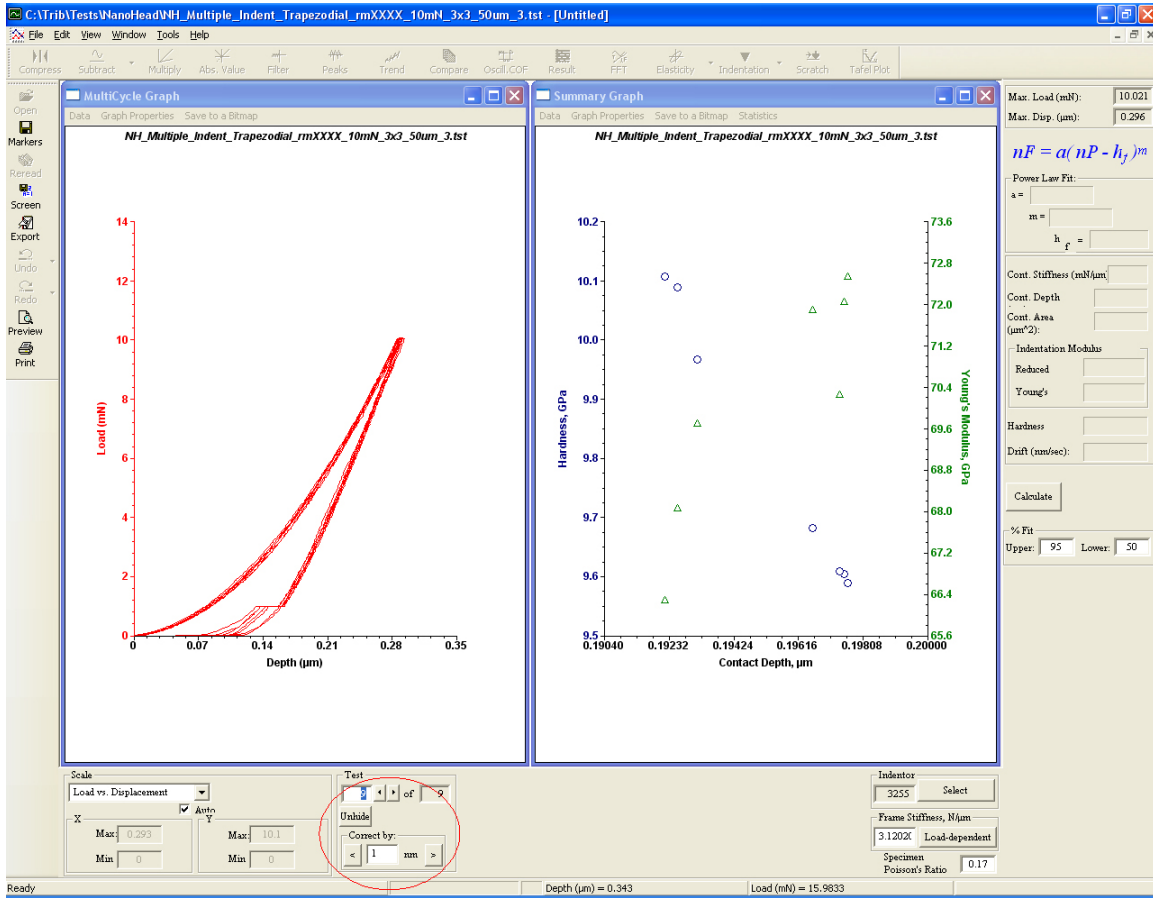

Figure 26: Adjusting the contact point of an indentation cycle.
- 4) To adjust the detected contact point select the indentation test and use the “correct by” to shift the curve the entered amount, as shown in Figure 26.